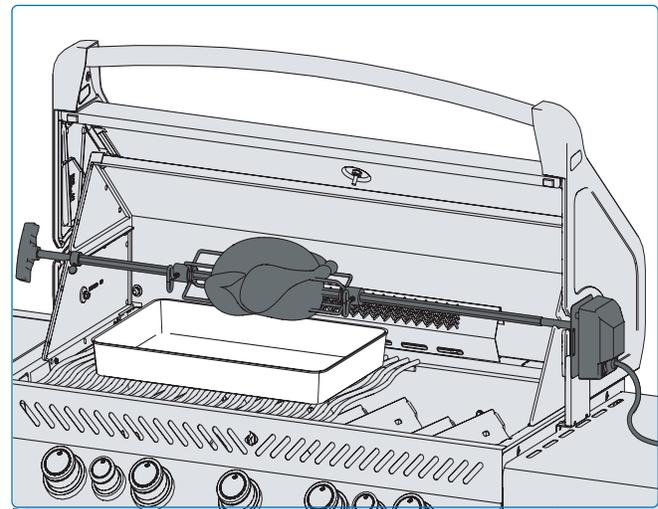

Fig. 16
- Be sure to always set an evenly balanced load on your rotisserie (**Fig 16**).